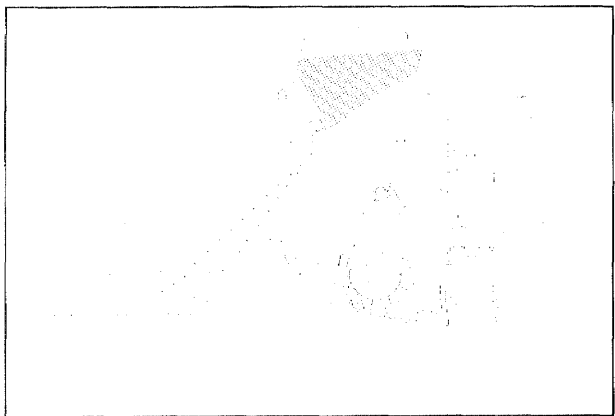

Fig. 4
- **AMAZONE Power harrow with Pack Top seed drill equipped with 'K'-(Suffolk) coulters** (Fig. 4) on light to medium heavy soils for operation following the plough.